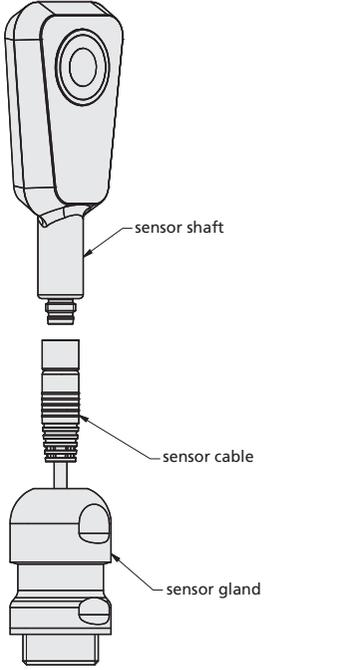

Fig. 4: Mounting of pms sensor with sensor screw connection BF-pms/A1
- The D12 adapter shaft of the pms sensor has to stick out 7±1 mm from the screw connection for hygienic mounting (see Fig. 4 and Fig. 5).